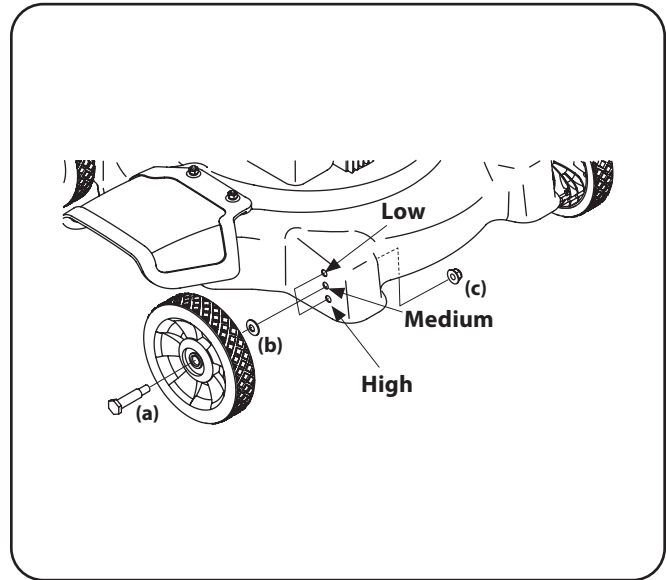

Figure 3-6
- 4) Mower deck wheels may need to be installed. We recommend the highest height blade position which is the lowest hole location. Fig 3-6.
1. Remove the shoulder screws (a), washers (b) (front wheels only), and nuts (c) from the wheels. See Figure 3-6.